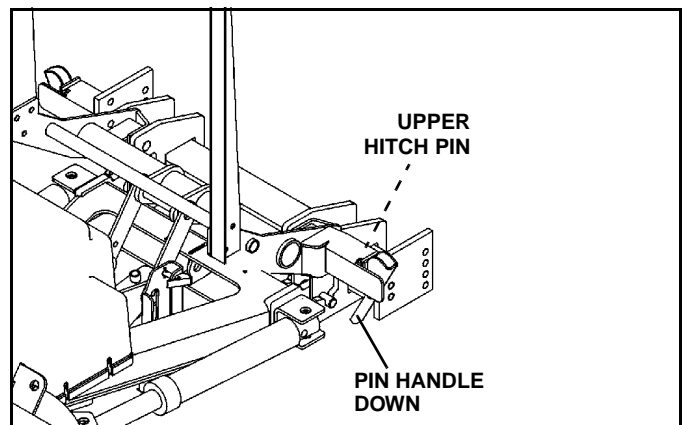

Figure 1-18
4. Put plow into float position. Rotate pin handles down to lock pins in place. (See Figure 1-18).